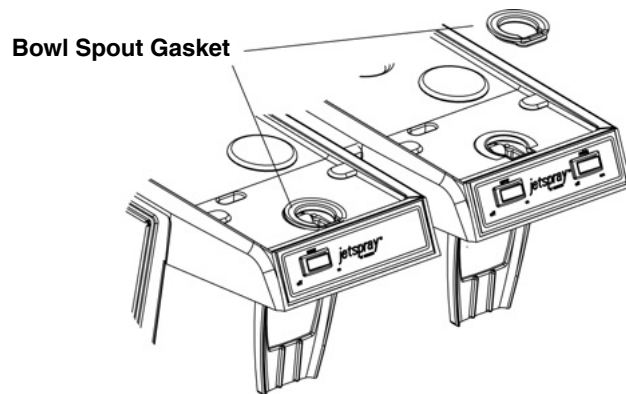

Figure 3.
4. Check that bowl spout gasket is mounted properly to the base assembly, as shown in Figure 3.